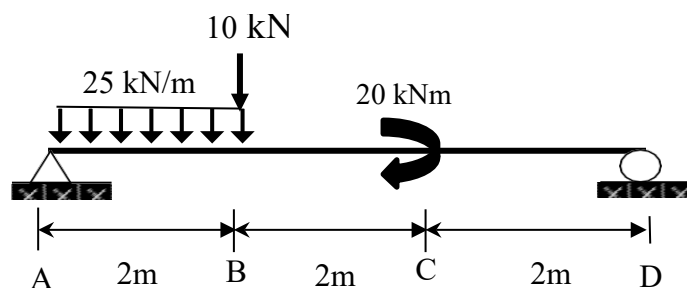

Figure B1 (b) / Rajah B1 (b)
- CLO2 (b) Figure B1 (b) shows a simply supported beam is subjected to the loads. Calculate the reactions at support A and D.
- (c) Calculate the shear force and bending moment value with shear force diagram (SFD) and bending moment diagram (BMD) for Figure B1 (b).